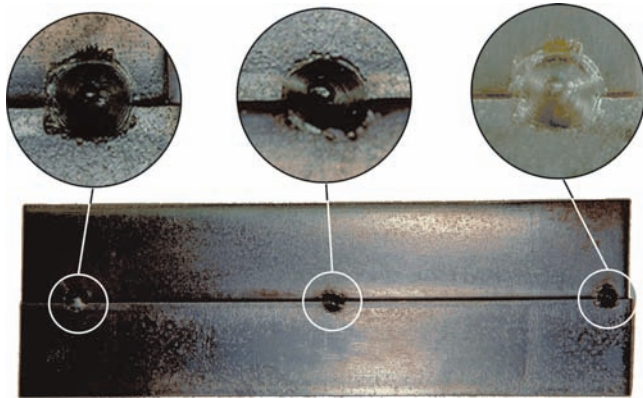

FIGURE 12-30 Use enough tack welds to keep the joint in alignment during welding. Small tack welds are easier to weld over without adversely affecting the weld.
- Tack weld the sheets together and place them flat on the welding table, **Figure 12-30**.